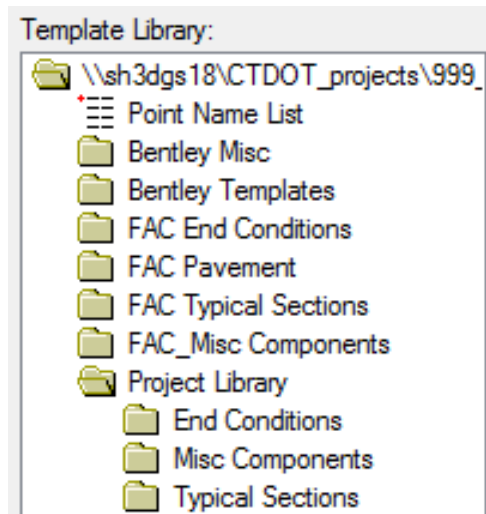

Figure 6-21 Location of Facilities Template Library "Project Library" Folder
- B. **Double click** the template library in the left window listing to expand the library folders. Figure 6-21 shows the list of folders in the Template Library.